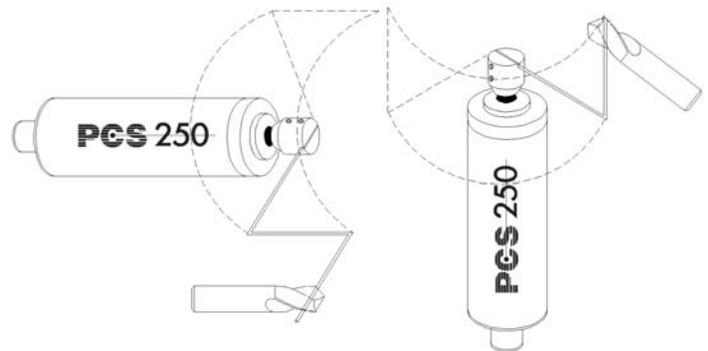

Figure 4: Bent Needle examples
c) If a straight Needle does not suit your needs, the Needle may be bent into any desired configuration (ex: to swing past an obstruction). Two examples are shown in Figure 4.